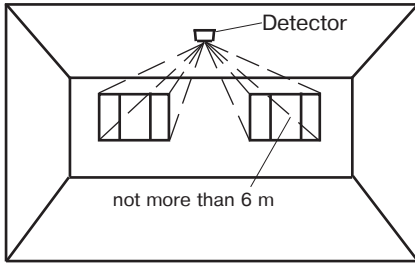

Figure 4 – Ceiling mounting (for monitoring of window openings in nearby walls)
- It is recommended to install the Detector at a height not less than 2 m (see examples of installation in Figures 4 – 7).
- Distance (L) from the detector to the farthest point of protected area should not exceed 6 m.